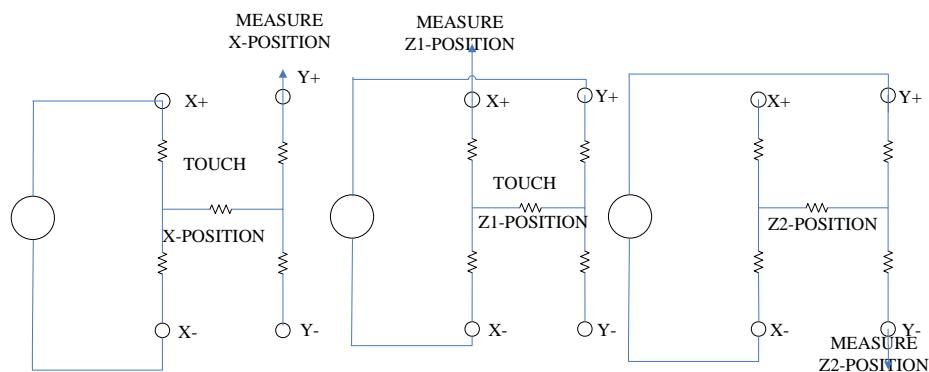

Figure 3-15. Pressure Measurement Block Diagram
The first method requires the user to know the total resistance of the X-plate tablet (RX). Three touch screen conversions are required: measurement of the X position, XPOSITION (Y+ input); measurement of the X+ input with the excitation voltage applied to Y+ and X- (Z1 measurement); and measurement of the Y- input with the excitation voltage applied to Y+ and X- (Z2 measurement). These three measurements are illustrated in Figure 3-15. The controller has two special ADC channel settings that configure the X and Y switches for the Z1 and Z2 measurements and store the results in the Z1 and Z2 result registers. The touch resistance (RTOUCH) can then be calculated using the following equation: